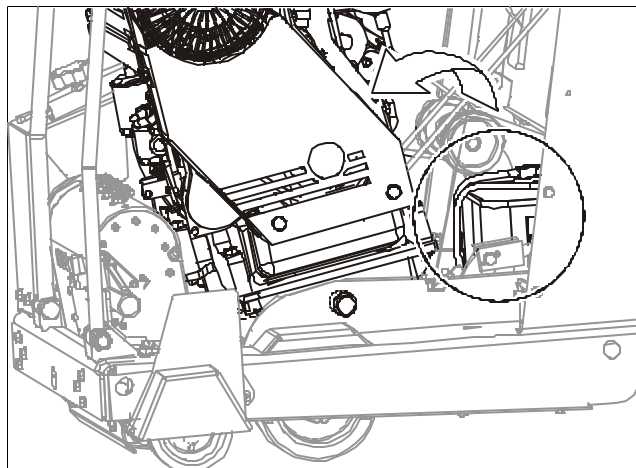

Fig. 40 — Engine Rotated Forward to Remove the Battery
4. Tilt the saw down and roll the engine as far forward as possible, to create the maximum access opening. See figure 40.